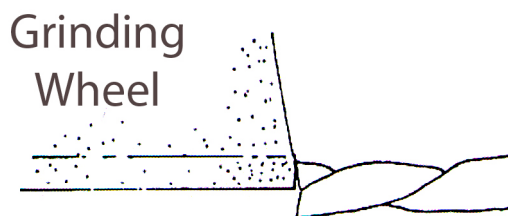

Fig. 13
- (6) Adjust the table and saddle to position the cutter end. Touch the first Relief Side and grinding wheel's edge slightly as Figure 13.